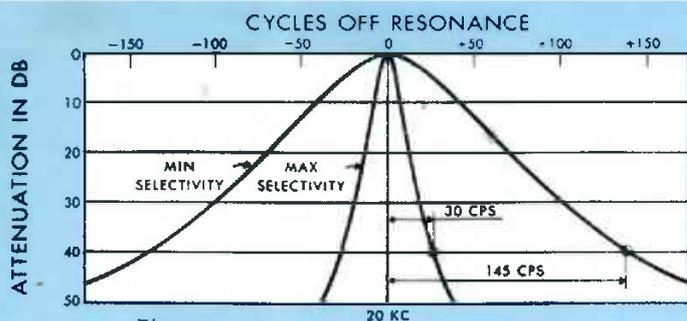

Figure 1
**T**HIS *hp* Model 300A Harmonic Wave Analyzer is a selective voltmeter designed to measure the individual components of complex waves. The selectivity can be varied by means of a unique selective amplifier. Where the harmonics are close together the high selectivity easily separates the wave components. Yet, where the components are spaced far apart, the selectivity may be widened to increase the speed of operation without sacrificing essential accuracy. This feature is also valuable where it is necessary to measure distortion of waves containing a small amount of frequency modulation, such as in sound tracks, and may be used conveniently to integrate a small portion of the audio spectrum in noise measurements and the like. Maximum selectivity is sufficient to separate harmonic components spaced 30 cycles apart. See figure 1.